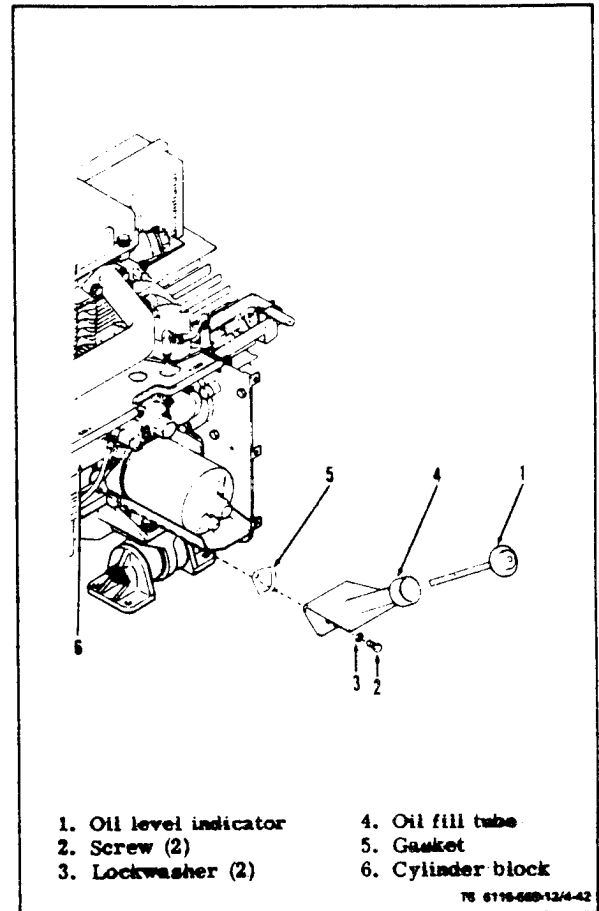

Figure 4-42. Oil Fill Tube
a. Remove (see figure 4-42). On ASK equipped generators, remove oil access door. Remove oil level indicator (1). Remove screw (2), and lockwasher (3). Remove oil fill tube (4) and scrape gasket (5) from mating surface on cylinder block (6) and oil fill tube (4).
b. Installation. Install gasket (5) between oil fill tube (4) and cylinder block (6). Attach oil fill tube (4) with screw (2) and lockwasher (3). Install oil level indicator (1) in oil fill tube (4).